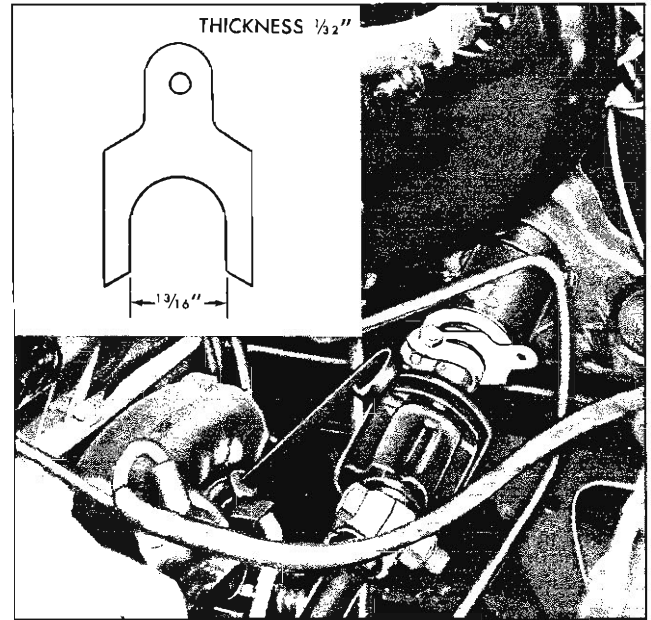

Fig. 1—Mast Jacket Lower Bearing Adjustment
1. With steering shaft spring stop clamp bolt loosened, position a $\frac{1}{32}$ shim gauge between spring coils, (fig. 1).
NOTE: Shim gauge can be made by cutting a $\frac{3}{16}$ opening out of a $\frac{1}{2}$ front end caster camber shim, see insert of Figure 1.